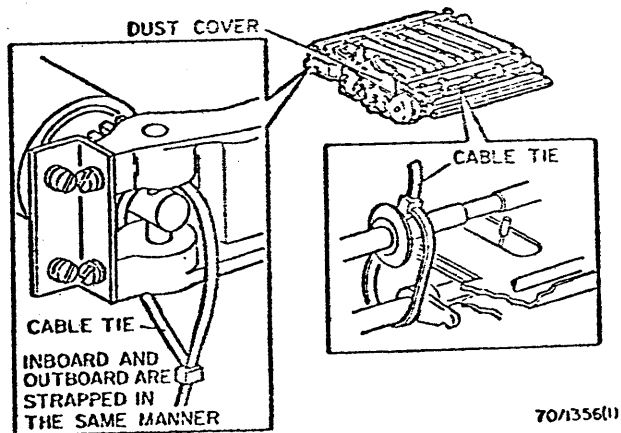

Fig. 2-4. Register Stop Drawer Tie-down Points
6. Open the register stop drawer and remove three cable ties shown in Fig. 2-4.